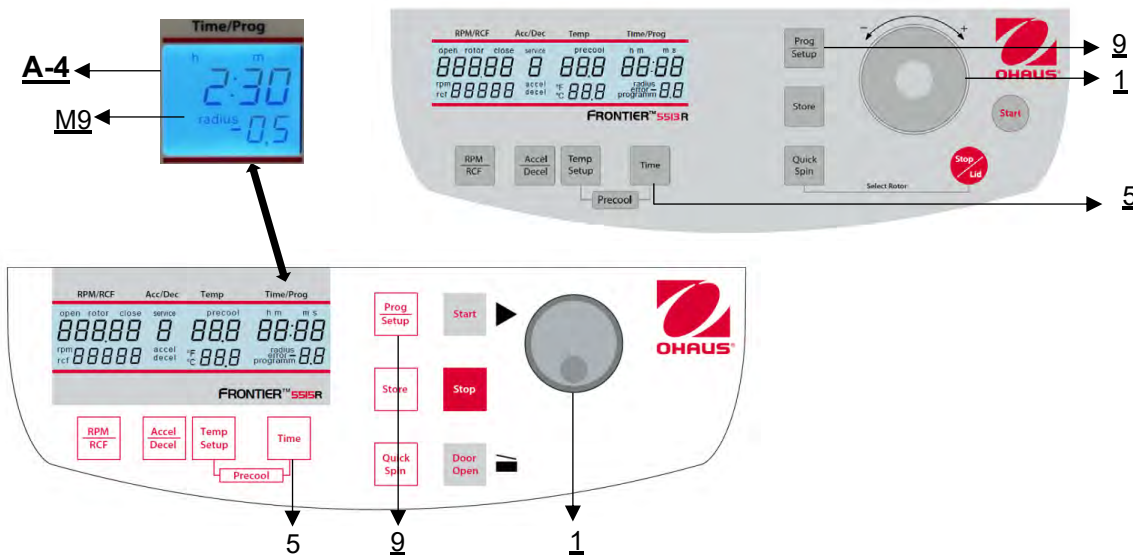

Figure 17
First, close the centrifuge lid, then press the key "**Time**" (5) and the key "**Prog/Setup**" (9) at the same time and hold them (see **Figure 17**).